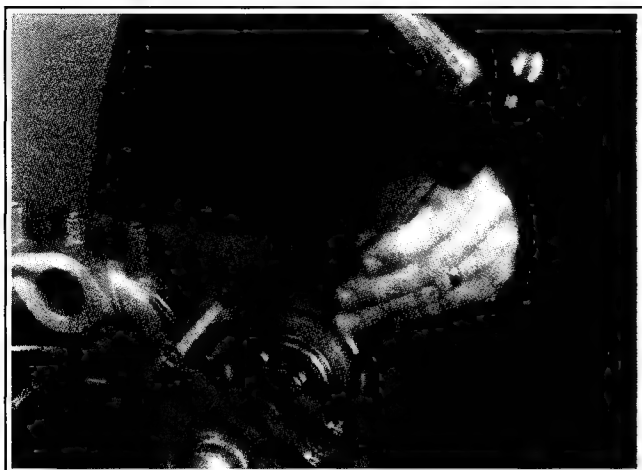

Figure 11-29. Driving Coiled Spring Into Position in Governor.
7. Insert new coiled spring pin in the holes and drive in with a punch until flush with the governor body. See Figure 11-29.